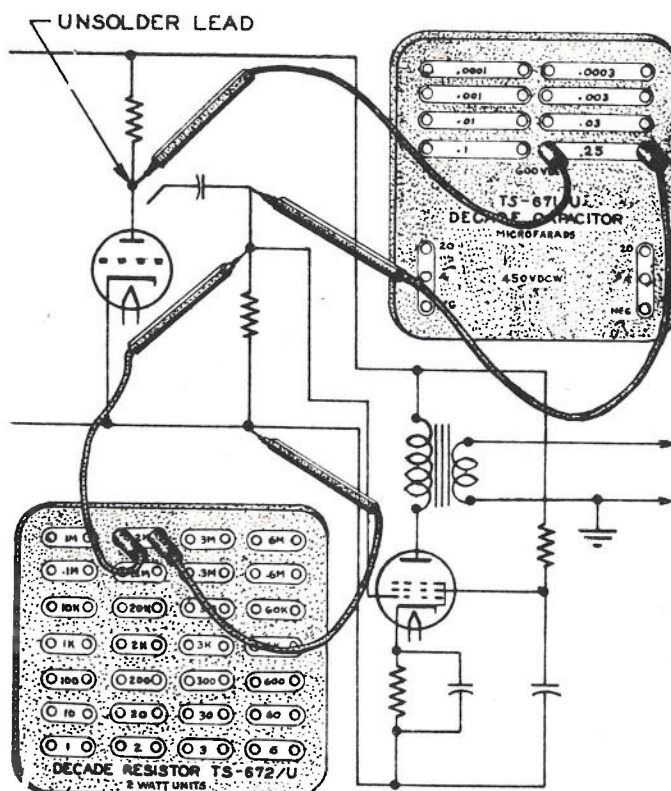

Figure 4-12. Substituting Decade Resistor and Decade Capacitor in an Electronic Circuit
(1) The Decade Resistor and Decade Capacitor can be used individually for substitution tests in any electrical circuit, provided the ratings as given in Table 1-4, Technical Summary are not exceeded. To check a capacitor by the substitution method, one lead or connection of the suspected component must be unsoldered and the proper value from the Decade Capacitor connected into the same position in the circuit by means of electrical leads. If one side of a component is at ground voltage level, only the high side should be unsoldered. This will lower stray capacitances. The stray capacities created by the addition of leads and Decade boxes may interfere with the operation of critical circuits. To check a resistor by the substitution method, the value of resistance from the box should be selected and inserted across the resistor. Figure 4-12 shows the method of substituting both units.
(2) Both units can be connected in series and used as an RC time constant or phase shift network.